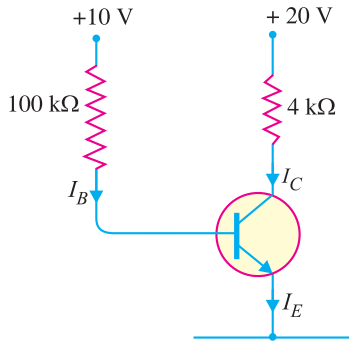

Fig. 9.48
2. Fig. 9.48 shows biasing with base resistor method. Determine the operating point. Assume the transistor to be of silicon and take $\beta = 100$. [$I_C = 0.93\text{ mA}$, $V_{CE} = 17.3V$]